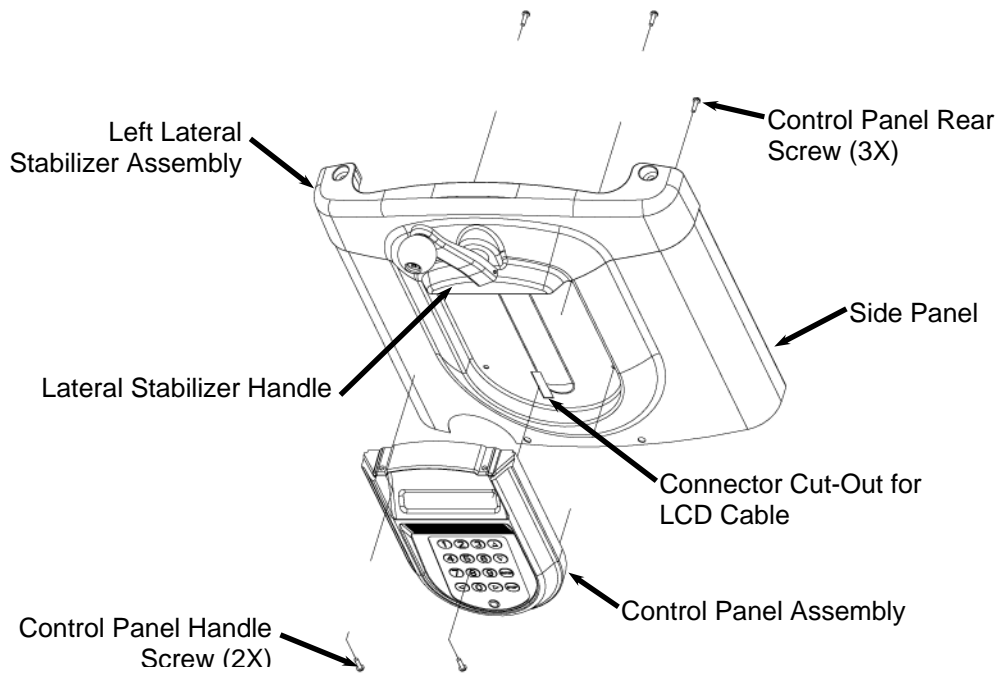

FIGURE 4: REMOVING THE CONTROL PANEL ASSEMBLY
2. **Remove the cable protector for the cables routed from the base to the movable head along the inside of the left side panel assembly.** Remove the single screw as shown in Figure 4 with a #2 Phillips screwdriver. Use a magnetic tipped screwdriver if possible to avoid dropping the screws into the machine. Remove plastic cable protector from the machine.